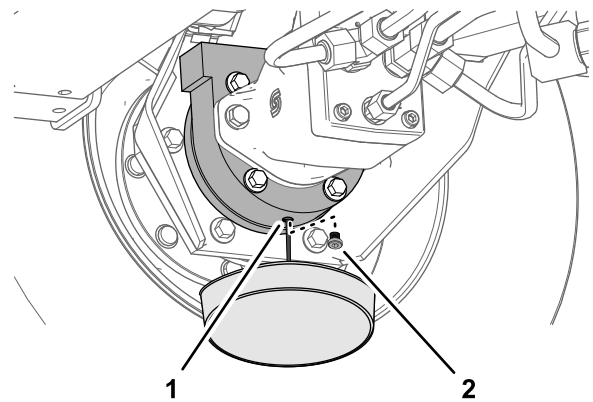

Figure 68
6. Place a drain pan under the brake housing, remove the drain plug, and allow the oil to fully drain (Figure 68).